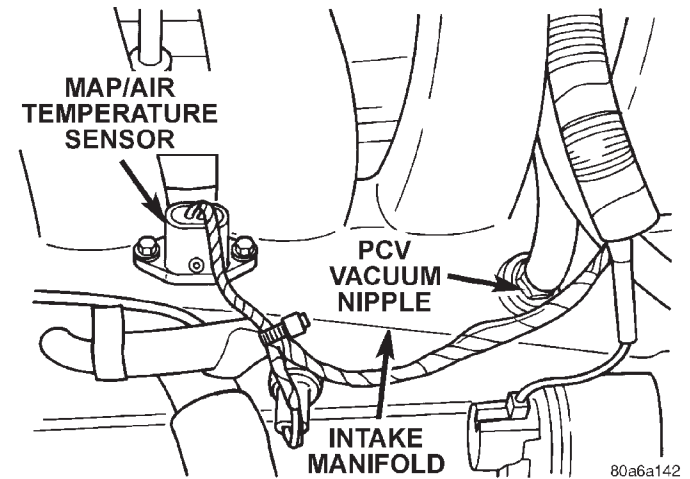
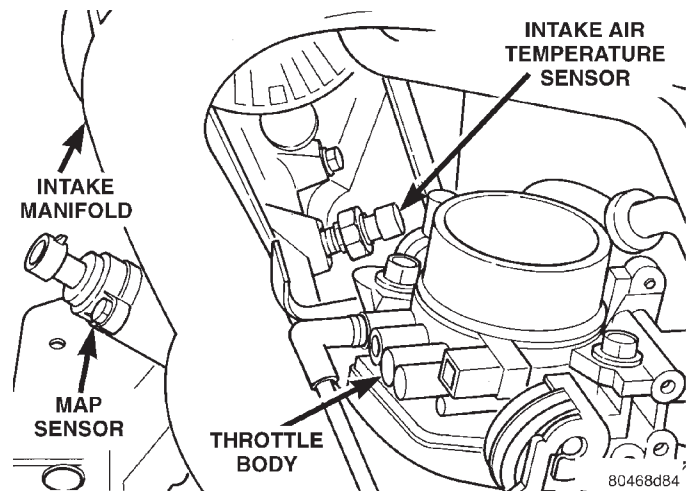
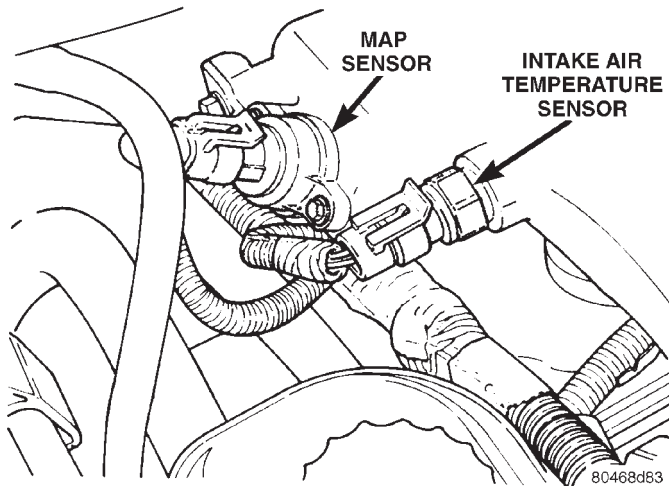

Fig. 42 MAP/ Air Temperature Sensor—2.0L Engine
Fig. 43 MAP Sensor and Intake Air Temperature Sensor—2.4L Engine
Fig. 44 MAP Sensor and Intake Air Temperature Sensor—2.5L Engine
(7) Inspect the electrical connections at the intake air temperature sensor and the MAP sensor (Fig. 42), (Fig. 43) or (Fig. 44).